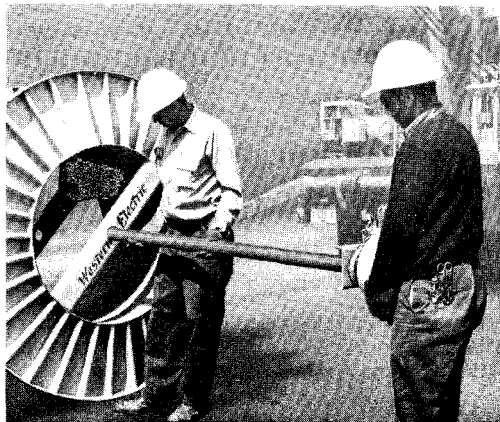

Fig. 11—Fitting the Spindle Into the Cable Reel Spokes
(1) Position the reel at the rear of the truck so the cable will feed forward off the bottom of the reel on the TELSTA or forward off the top of the reel on the SERVI-LIFT or SKYWORKER.
(2) Lower the loader and remove the spindle. Fit the spindle into the center holes of the reel spokes (Fig. 11), making sure the brake is on the proper side, and approximately center the spindle in the reel. Place a centering cone on the spindle shaft but do not tighten at this time.
(3) Move the reel forward to position the spindle and brake above and in line with the supports on the loader arms. Raise the loader until the spindle is supported by the loader arms and lock the spindle in place.
(4) Raise the loader just enough to allow the reel to clear the ground and slide the reel toward the spindle brake to engage the driveplate or reel clamp. Slide the centering collar against the reel and tighten the setscrew.
(5) Raise the loader to place the reel in its pay-out position.
(6) On the TELSTA, thread the cable through the guides to the main guide sheave or swivel